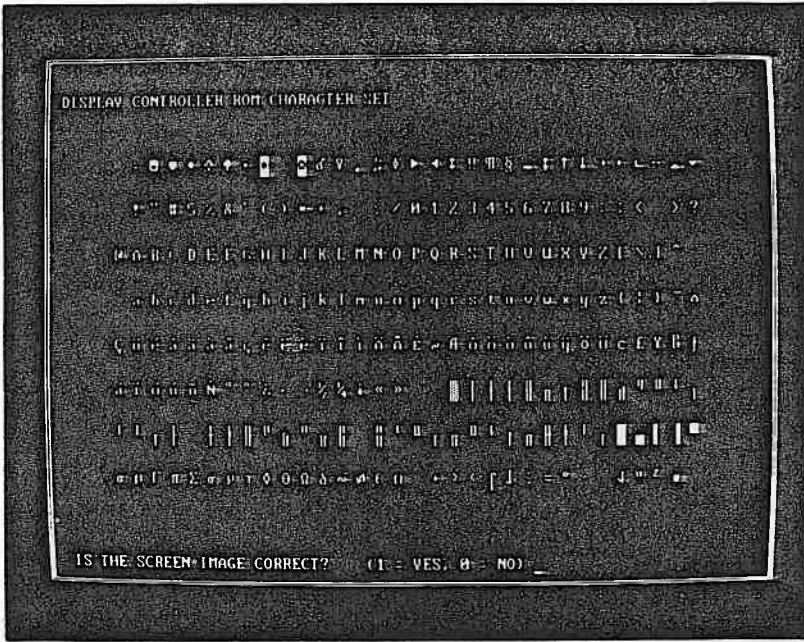
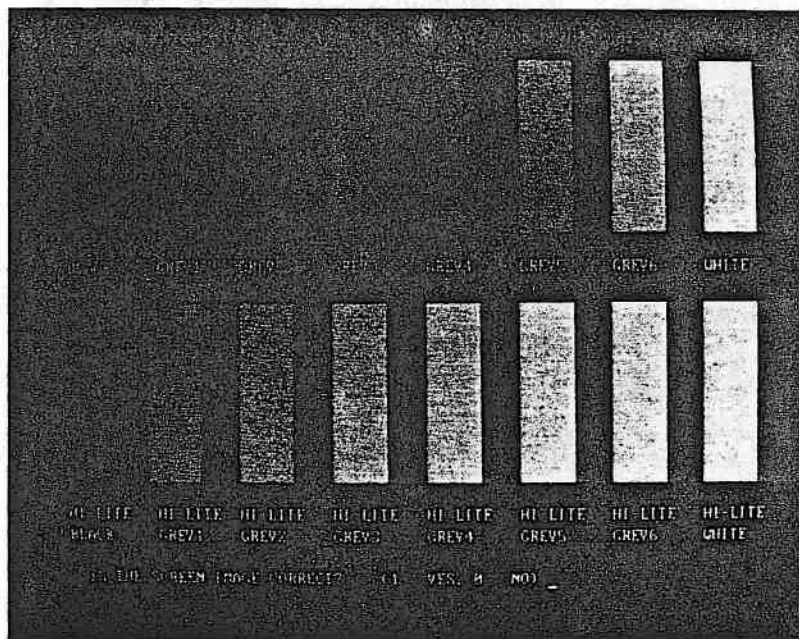

Figure 5-21. Display Controller ROM Character Set
Figure 5-22. Gray Scale Test Pattern
14. The Character Set should now be displayed on the screen as shown in Figure 5-21.
If the character set displayed on the screen is the same as Figure 5-21, press the **y** key. If it is not the same as Figure 5-21, press the **n** key followed by the **ENTER** key to continue with (abort) the video tests.
15. The Gray Scale test pattern should be displayed on the screen as shown in Figure 5-22.
If the pattern shown on the display is the same as Figure 5-22, press the **y** key. If it is not the same as Figure 5-21, press the **n** key followed by the **ENTER** key to continue with (abort) the video tests.